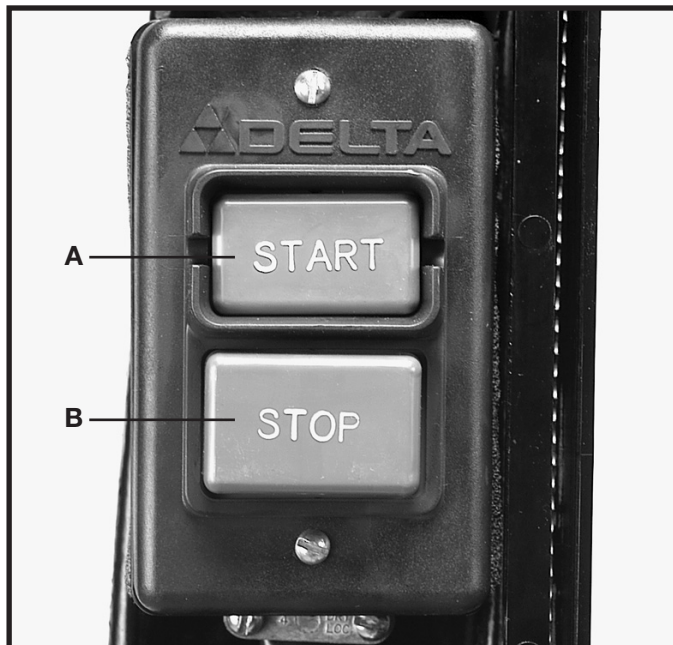

Fig. 15
1. To start the saw, press the "START" button (A) Fig. 15.
2. To stop the saw, press the "STOP" button (B) Fig. 15.